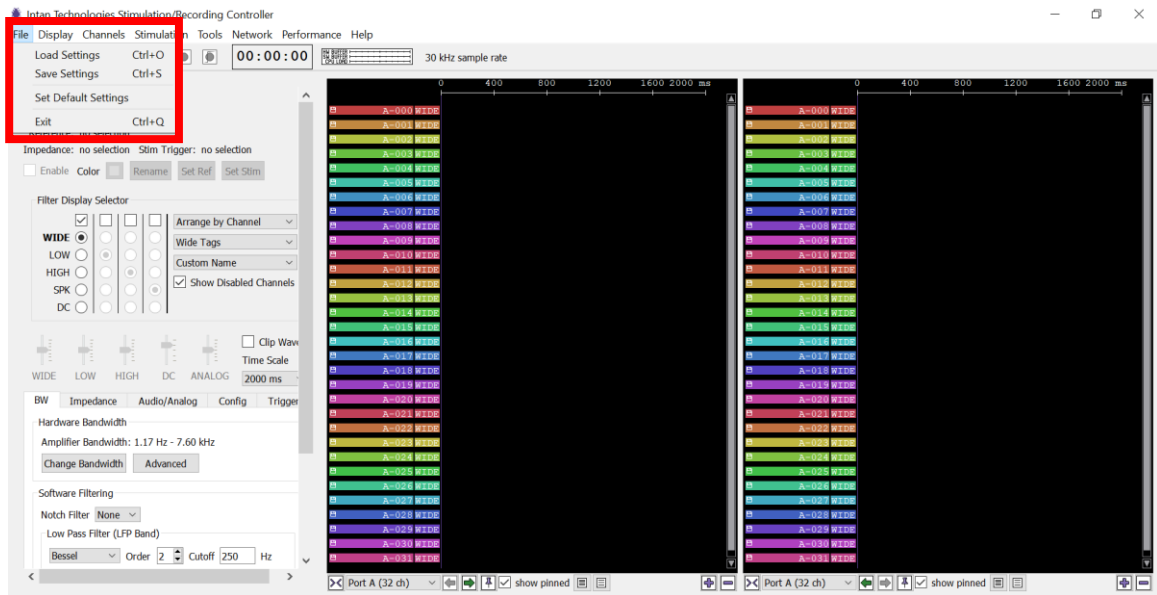

Fig. 31: "File" tab and "Load Settings" button location in the GUI.
- 9) Select "File" and "Load Settings" (**Fig. 31**) and select the file location.